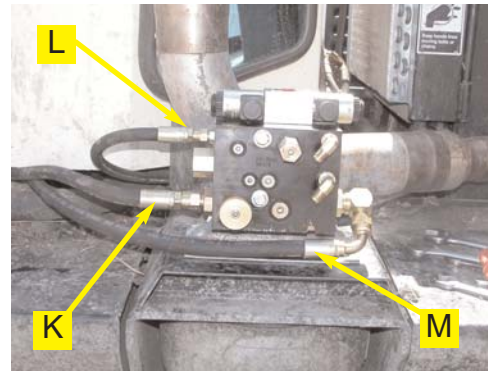

Figure 4a. Hoses attached to Automated Steering Block.
- a. Install the provided tank hose (**L**) between the **T** port of the Automated Steering Block and the branch of the run tee installed in step 3. (Figure 4a. and 4b.)
- c. Connect the Automated Steering pressure hose (**K**) to the **P** port of the Automated Steering Block and the excess flow port of the priority divider. (Figure 4a. and 4d.)
- d. Connect the excess-flow hose (**M**) from the **EF** port on the Automated Steering Block to the line removed from the priority divider. (Figure 4a. and 4d.)